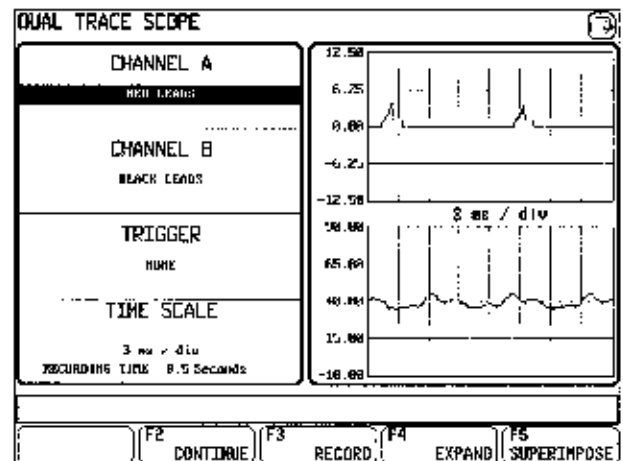

Figure 2-21
1. Select Item 11, "DUAL TRACE SCOPE" from the "Service Test Menu." The "Dual Trace Scope" screen appears (see Figure 2-21).